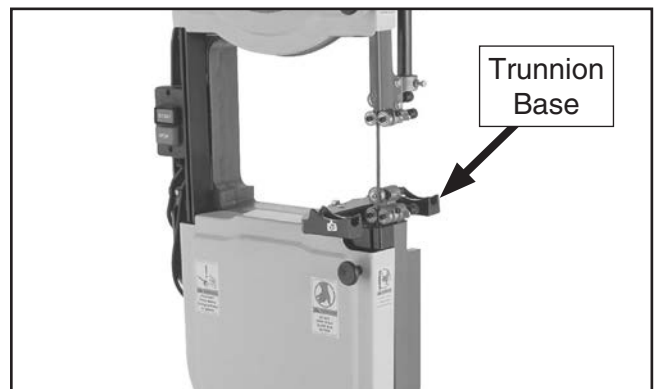

Figure 7. Installing trunnion base.
6. Fasten the trunnion base to the bandsaw, as shown in **Figure 7**, with the two M8-1.25 x 30 hex bolts and two 8mm lock washers.